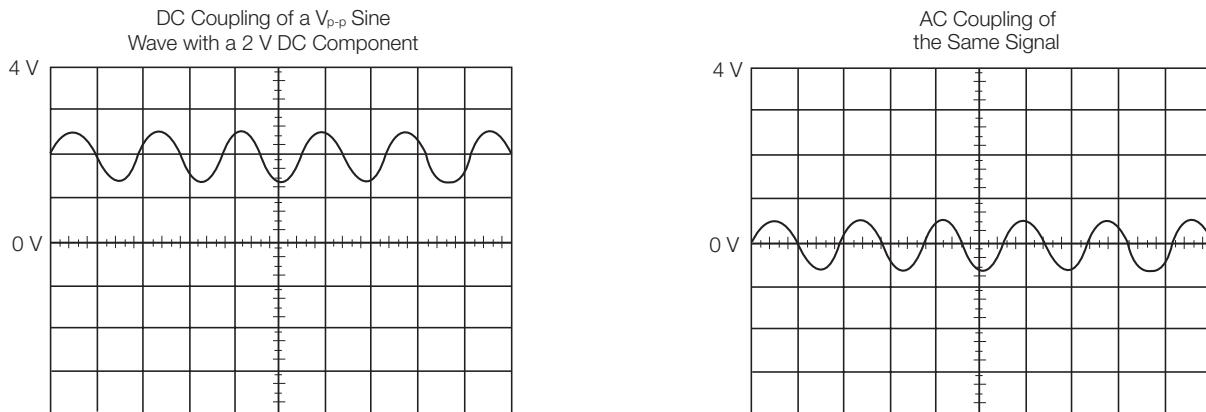

Figure 23. AC and DC input coupling.
**Coupling** refers to the method used to connect an electrical signal from one circuit to another. In this case, the input coupling is the connection from your test circuit to the oscilloscope. The coupling can be set to DC, AC, or ground. DC coupling shows all of an input signal. AC coupling blocks the DC component of a signal so that you see the waveform centered around zero volts. Figure 23 illustrates this difference. The AC coupling setting is useful when the entire signal (alternating current + direct current) is too large for the volts/div setting.